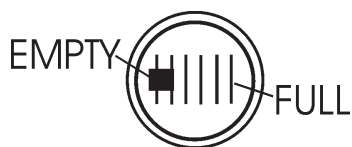

Figure 11. Fuel Gauge
1. Read the fuel gauge located on top of the generator (Figure 11) to determine if the fuel level is low.